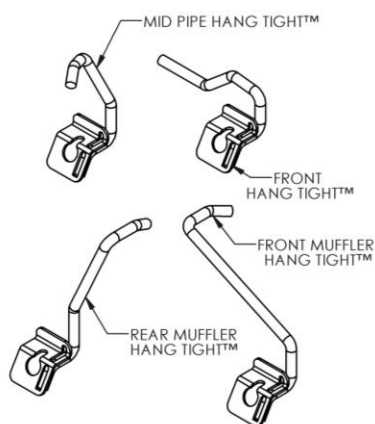

Figure 1
2. Install the **Front Hang Tight™ Hanger** (see figure 1 for hang tight clarification) onto a **4" Band Clamp** and the remaining **Hang Tight™ Hangers** onto **5" Band Clamps** using the procedure shown below (figure 1). (Hang Tight™ Hanger not exactly as shown).